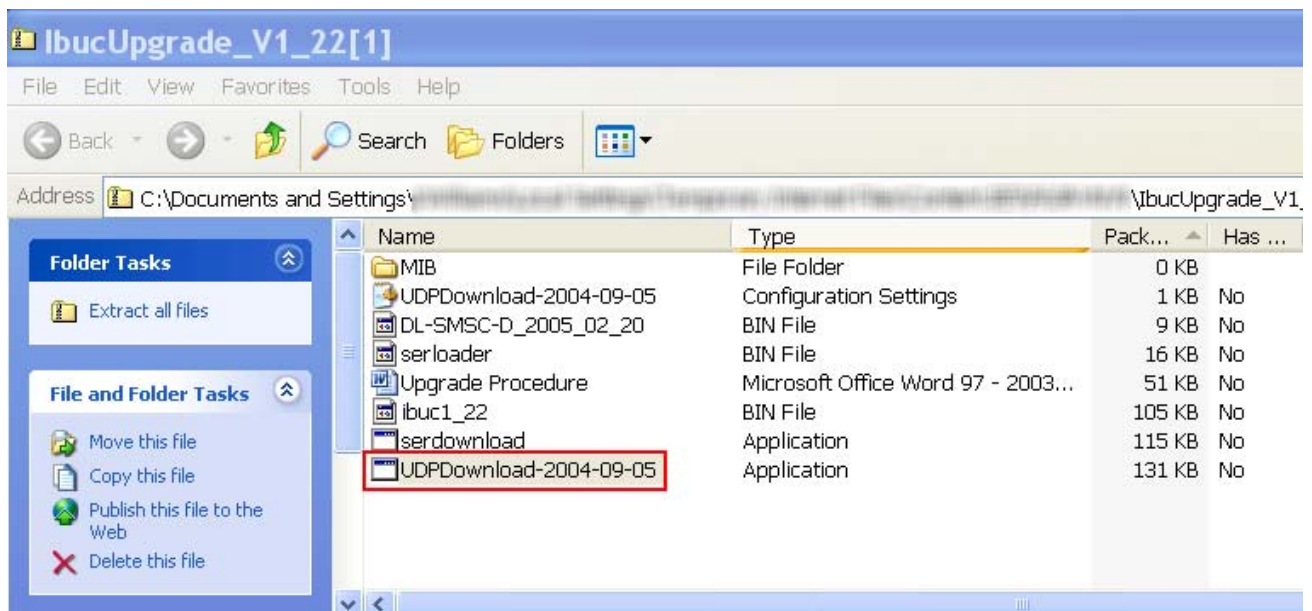

Figure 5.4 Contents of the IBUCUpgrade_v122 .zip File
5. The contents of the .zip file appear as shown in Figure 5.4. Double-click the file named UDPDownload-2004-09-05.